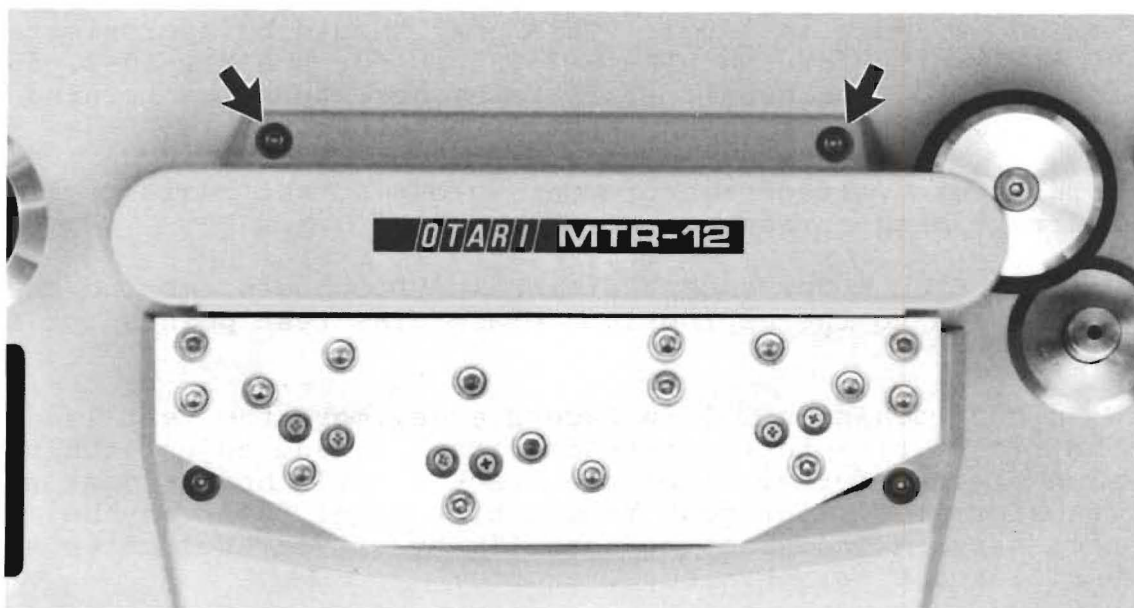

FIGURE 4-3. REMOVAL OF THE HEAD ASSEMBLY REAR COVER
1. Remove the two allen-head screws that secure the head assembly rear cover to the chassis, and lift off the cover. (Refer to Figure 4-3.)